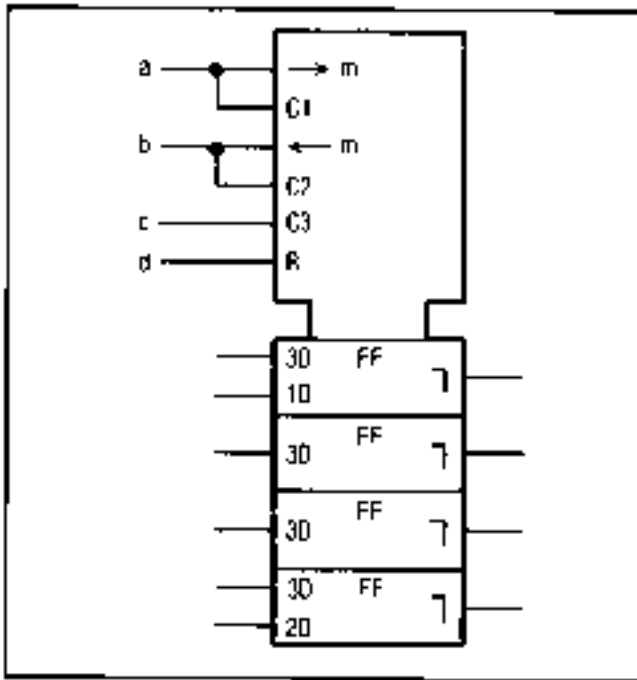

Figure 8-10. Shift Register
**Shift Register.** The shift register (see Figure 8-10) control block shows common inputs to a bidirectional shift register. Notice that ">m" means shift the contents to the right or down by "m" units. And "<m" means shift the contents to the left or up by "m" units. Note: If m=1, then "m" may be omitted. Inputs "a" and "b" are each single IC pins that have two functions. Input "a" enables one of the inputs to the top D-type flip-flop (1D) and also shifts the register contents down "m" units. Input "b" enables one of the inputs to the bottom flip-flop (2D), and also shifts the register contents up "m" units. Input "c" loads all four flip-flops in parallel (3D). Input "d" is a common reset. The output delay indicator is used because these are master-slave flip-flops.